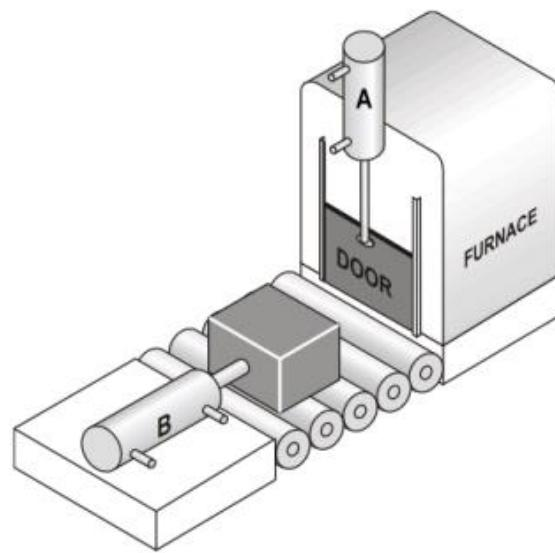

Figure 1/ Rajah 1
- (b) A furnace is used for heat treatment as per **Figure 1**. An operator pushes a button to start the process. The furnace door is opened, and the block is pushed into the furnace. The piston retracts before the furnace door is closed. The mechanism is controlled through two-cylinder system using cylinders A and B. Both types of the cylinders are double acting cylinder. Construct a pneumatic circuit for this conveyor system.